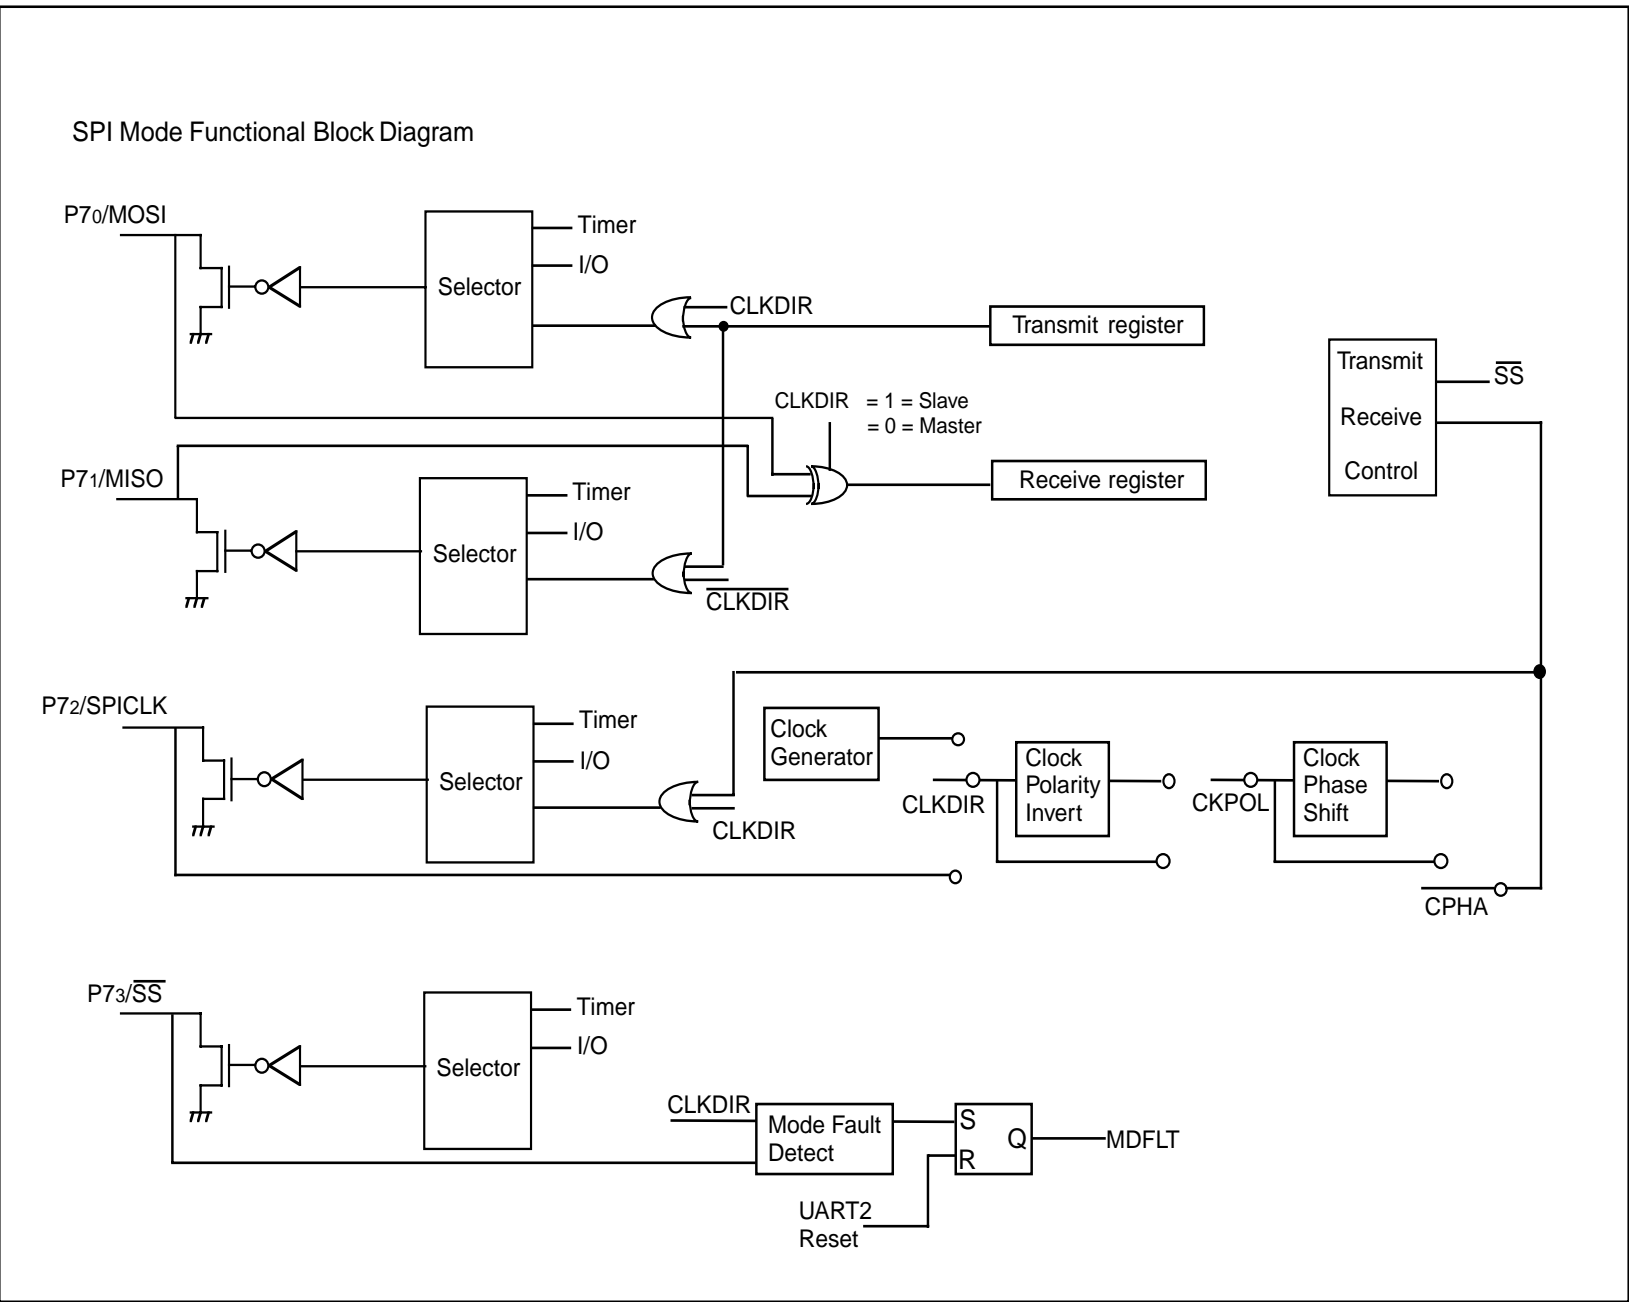

Fig. 1.112 Functional block diagram of SPI mode
- (1) An alternate clock to data relationship can be chosen with the CPHA bit (in U2SMR3). This bit can only be set when SPI bit is a "1". All four SPI clock to data formats are possible by using the CPHA bit together with the CKPOL bit (in U2C0). Figure 1.112 shows the function block diagram of SPI mode.
- (2) The RxD pin becomes the MISO pin.
- (3) The TxD pin becomes the MOSI pin.
- (4) P7[3]/ $\overline{\text{CTS}}/\overline{\text{RTS}}$ functions as the Slave Select input. This input is active low.
- (5) When configured as a master, a Mode Fault will be detected if the Slave Select input goes low. If no port pin is assigned to be a slave select input, then mode fault detection is disabled.
Select function	<ul style="list-style-type: none"> LSB first or MSB first selection Whether transmission/reception begins with bit 0 (LSB) or bit 7 (MSB) can be selected. Function for setting an SOUT_i initial value selection When using an external clock for the transfer clock, the user can choose the SOUT_i pin output level during a non-transfer time. For details on how to set, see Figure 1.112.